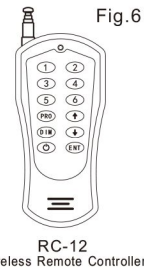

Fig.6
(8) Using of wireless remote controller (Fig. 6) :